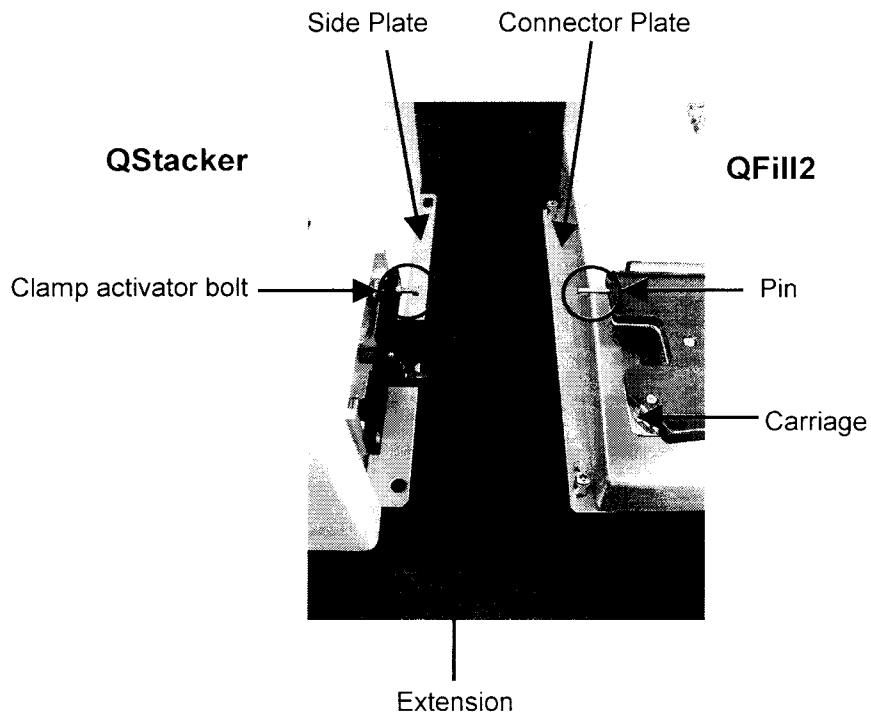

Figure 7 Top view of *QStacker* and *QFill2* prior to connection.
4. Place the **QStacker** next to the **QFill2** so that the slots on the side plate fit over the pillars on the connector plate (Figure 7).
12. As the carriage moves to the left to pick up a WellPlate, the pin on the base plate strikes the clamp activator bolt on the **QStacker** (Figure 7), causing the plate retaining clamp to open. Adjust the clamp activator bolt so that the plate retaining clamp opens sufficiently to allow plates to move onto the base plate from the stacker.